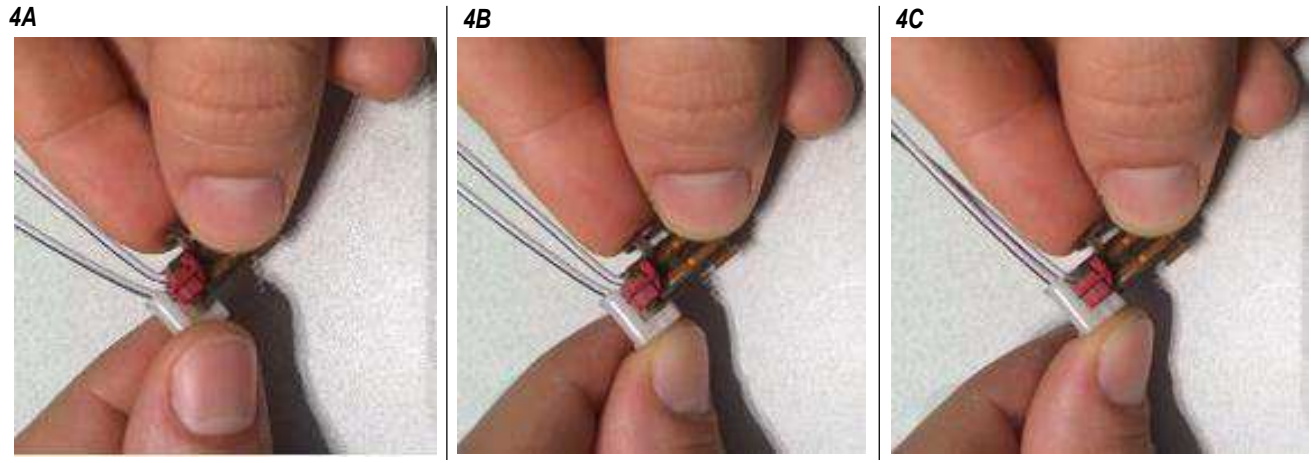

Figure 4
1. Hold the plug and cap assembly, grasp the wire bundle, and form (bend) the wire bundle in the desired direction. See Figure 4, Detail A.
assembly, making sure that the wire exit will accommodate the desired direction of the wire bundle. See Figure 4, Detail B.
3. Slide the wire cover onto the outer housing and over the wire bundle, making sure that all wires are completely captured within the wire cover, until it snaps into place. See Figure 4, Detail C.